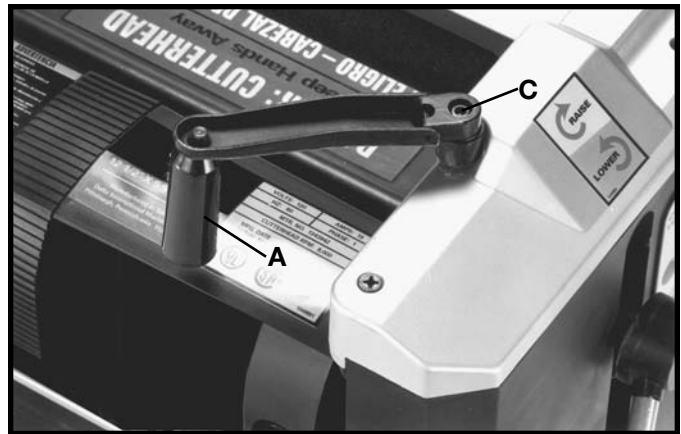

Fig. 8
2. Fasten cutterhead raising and lowering handle (A) Fig. 8, to shaft using the M5x.8x20mm hex socket head screw (C) with wrench supplied.